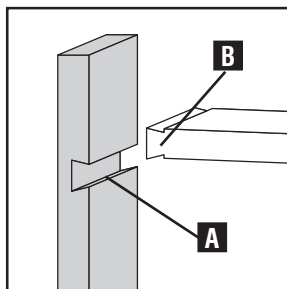

Fig. H1
Sliding tapered dovetails are often used to create shelves. This joint is created with a slightly tapered dado (A) Fig. H1 and a tenon (B) that is similarly tapered. The taper keeps the joint from tightening until the last few inches, making assembly easier.
- The tenon board (B) Fig. H1 needs to be at least 5/8" thick.
- The dado board (A) needs to be at least 1/2" thick.